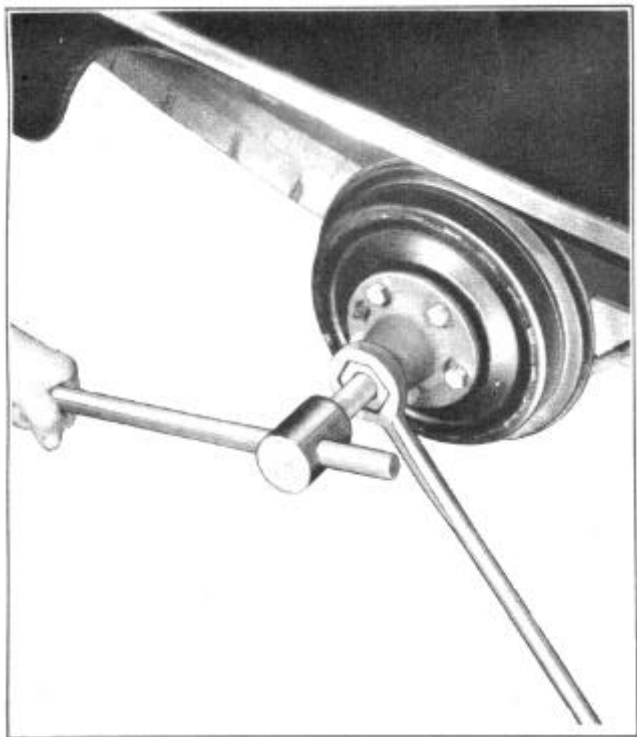

FIGURE 8
2. Remove hub and drum by means of hub puller S-736 as shown in Figure 8. (Do not strike the end of the axle shaft to loosen the hub because of possible damage to the bearing and the center drive shaft thrust spacer).